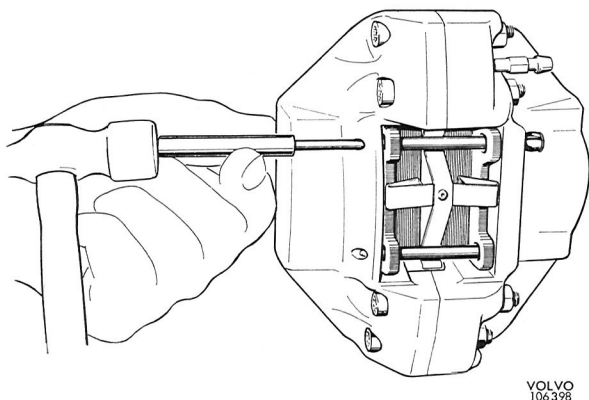

Fig. 5-14. Removing guide pin, ATE
- 3b. ATE: Tap out the upper guide pin with a drift with diameter 2.5 mm (9/64"), see Fig. 5-14. Take out the tensioning spring. Tap out the lower guide pin.